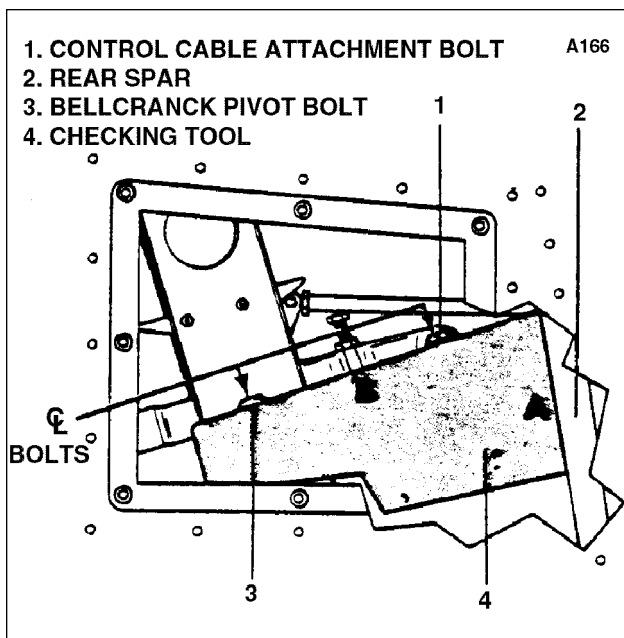

Figure 5-7. Installation of Bellcrank Checking Tool
- A. To rig the aileron controls, set the aileron bellcrank in neutral by positioning a special aligning tool within the wing as shown in Figure 5-7. (This tool may be fabricated from dimensions given in Figure 5-17.) The tool (Side A) uses the inside surfaces of rear spar as reference. Align Side B with centerlines of the bellcrank attaching bolt and turnbuckle attaching bolt.